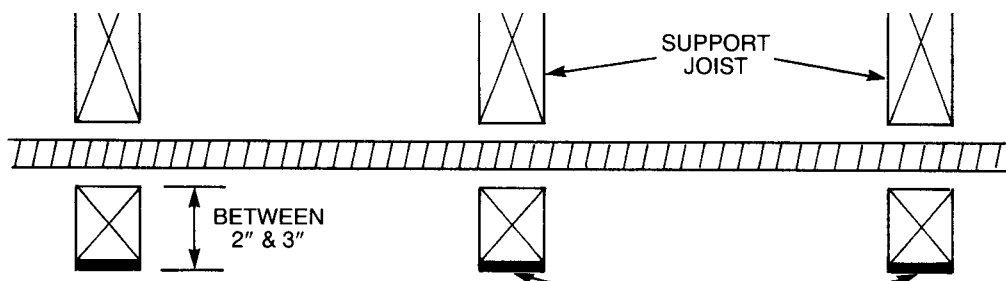

Figure 4-5
b. At support points and points of penetration 2 to 3 inches from any edge of stud, joist plate, etc. shielding is required throughout area of support. Use a quarter striker plate in these locations. (Figure 4-5)